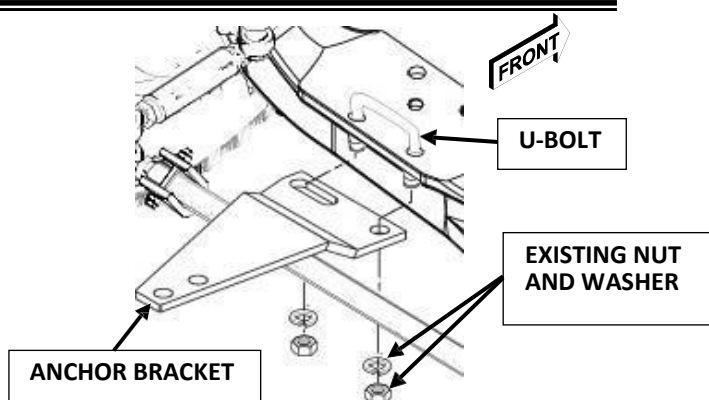

FIGURE 1. ANCHOR BRACKET INSTALL TO AXLE SUSPENSION U-BOLT
- Using a socket wrench with a 1-1/8-inch socket, remove two **existing nuts (and washers if installed)** from axle spring rear **U-bolt** on driver's side of front axle assembly. If **nuts** are difficult to remove, apply penetrating oil lubricant and re-attempt removal using a breaker bar or impact wrench for assistance (*Figure 1*).
1. Gain access to SAFE T PLUS® unit. Using a socket wrench with a 9/16-inch socket, loosen **Flanged Lock Nuts** on Tie-Rod Bracket **U-Bolts** so that **Tie-Rod Bracket** is no longer secured to the Tie-Rod. Be sure Tie-Rod can slide freely between the **U-Bolts** and **Tie-Rod Bracket** without binding (*Figure 1*).
2. After completion of vehicle alignment, ensure vehicle front wheels remain in the straight ahead position. Using a torque wrench with a 9/16-inch socket, torque **Flanged Lock Nuts** on Tie-Rod Bracket **U-Bolts** to **20 foot pounds** (*Figure 1*).